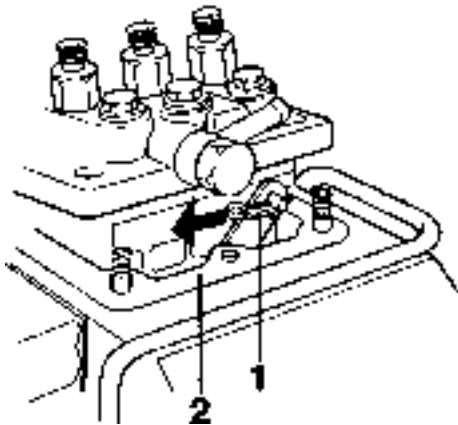

Fig. 87. Dismantling of the injection pump
3. Dismantle the pump's attachment screws and nuts. Turn the stop lever clockwise and carefully lift up the pump so that the lock pin to the regulator arm becomes accessible (Fig. 87).
2. Turn the stop lever clockwise and connect the regulator arm to the control rod on the pump. Fit the lock pin (Fig. 87). Screw tight the pump.